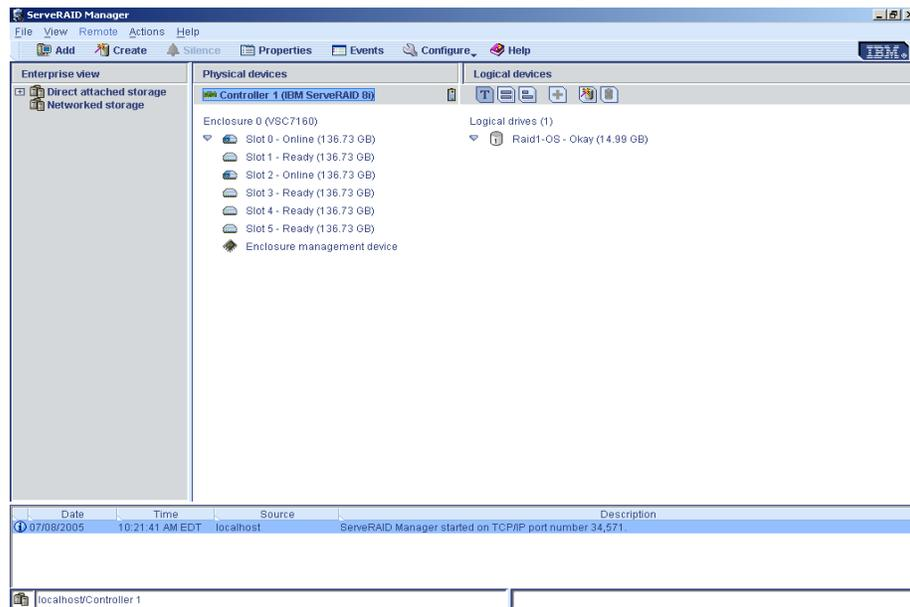

Figure 14. ServeRAID Manager window
2. The ServeRAID Manager program opens, and a window similar to the one shown in Figure 14 appears.
3. The ServeRAID Manager program opens, and a window similar to the one shown in Figure 14 on page 100 appears.